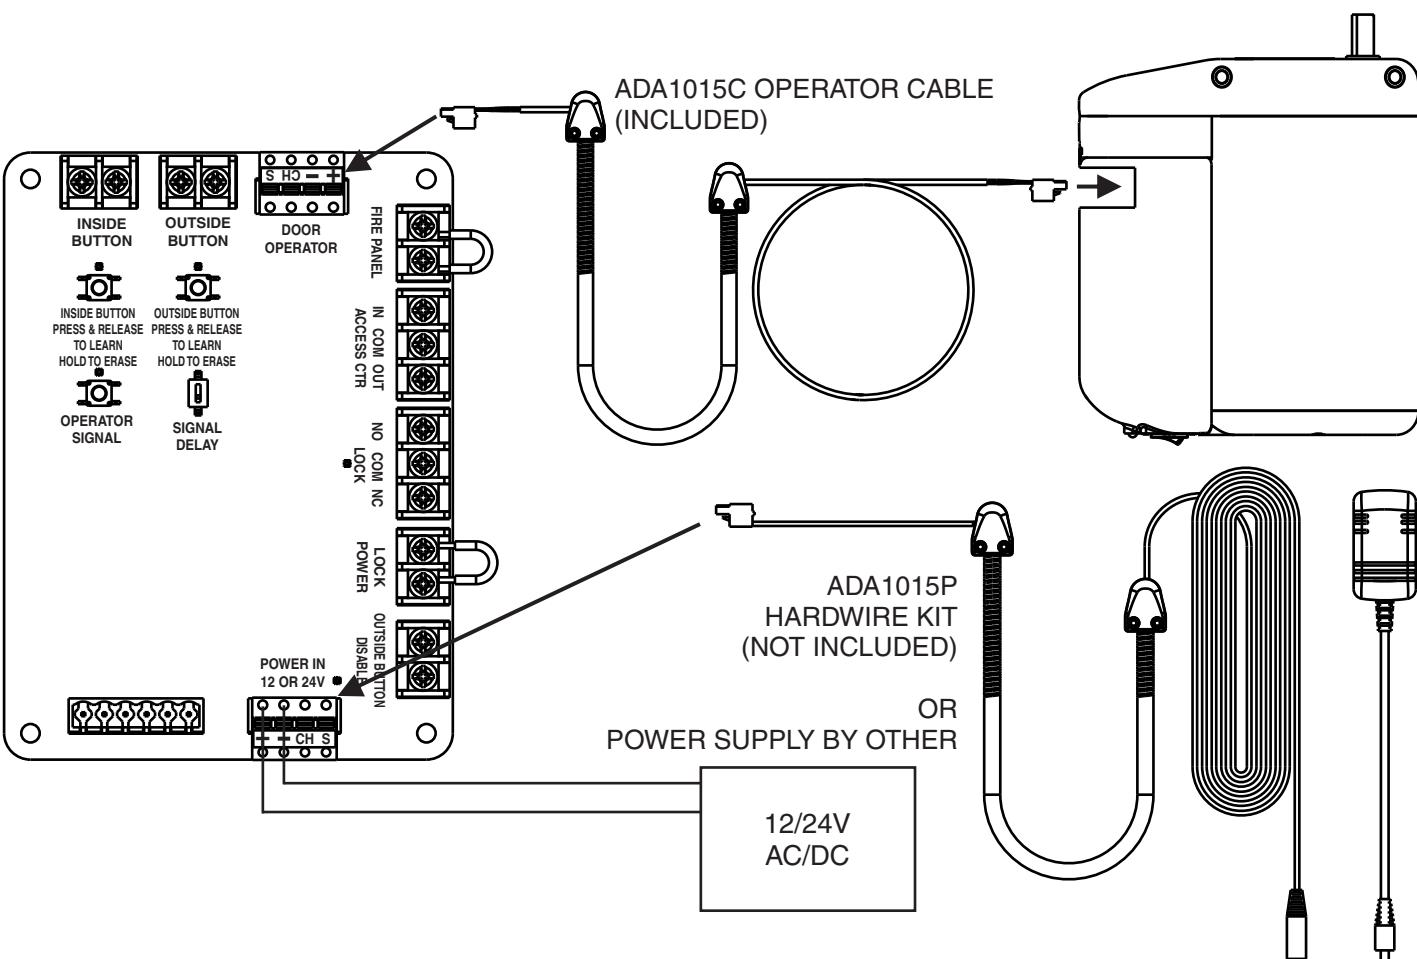

Figure 1
2. Provide power to the WIM. (Refer to Figure 1)